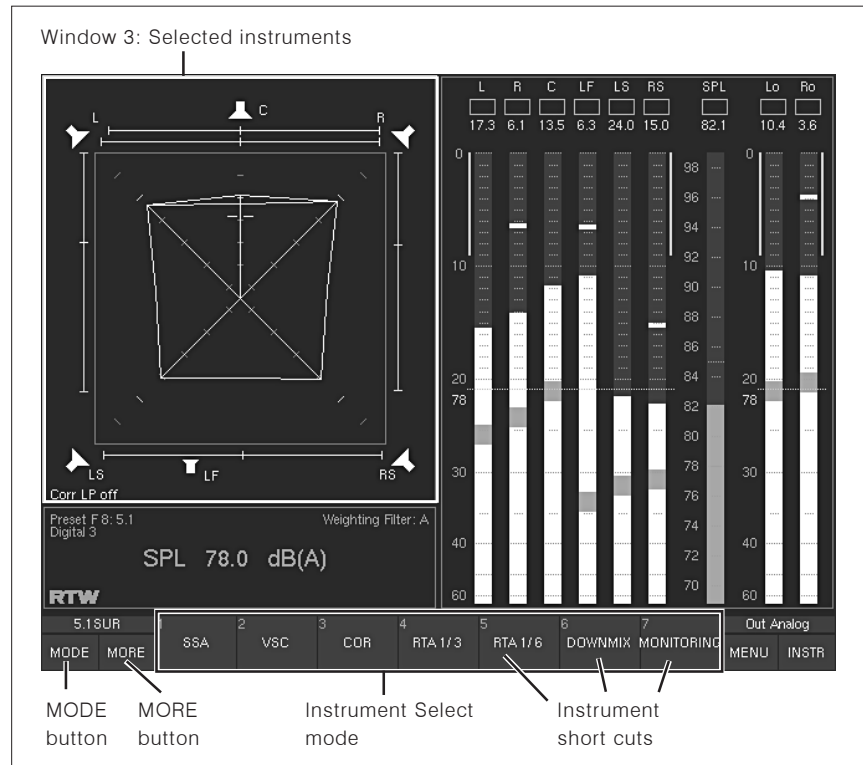

Fig. 3-6: The Surround Sound Analyzer displayed in window 3 and the first instrument selection level (displayed after selecting MODE) in the Toolbar
1. Press the **Mode** key/button on the Remote Control 30050 (31900 series) and the control panel of the 31960 series or click the **MODE** button in the Toolbar (screen window 1, see Fig. 2-1). The buttons numbered 1 to 7 in the Toolbar switch to Instrument Select mode and show the first seven available instrument types (display modes, see Fig. 3-6).